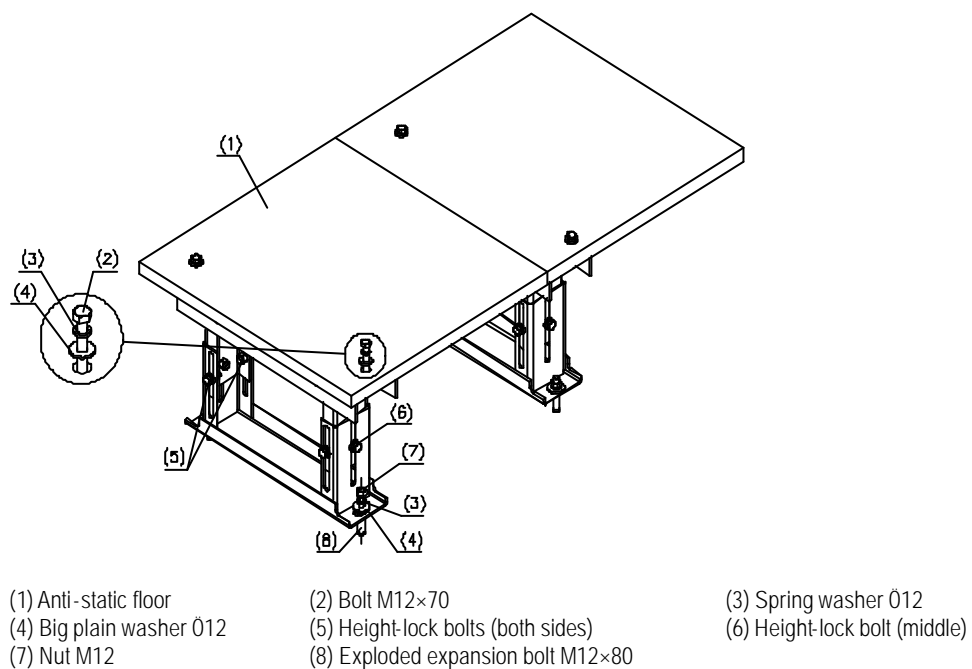

Figure 3-12 The position of fastening bolts
- 1) Align the hole on the anti-static floor with the connecting holes of the support. Screw the M12x70 bolts from the top to bottom. Meanwhile, place the plain washer, spring washer and insulating covering (for the purpose of increasing the contact area) as is shown in Figure 3-12.
- 4) Tighten the height-lock bolts to 45Nm with a Torque wrench. The bolts in the middle should be tightened first and then those on both sides. Figure 3-12 is the diagram of bolt position.